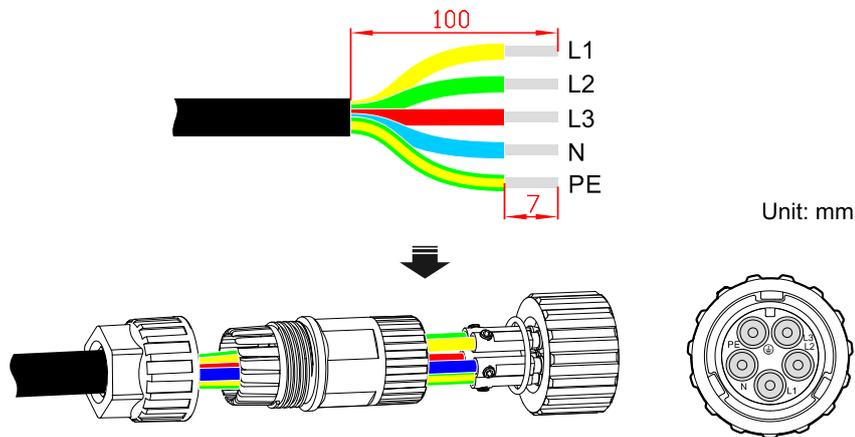

Figure3-39 Connect the AC connector
Step 2 Prepare grid connector, as shown in Figure3-39.